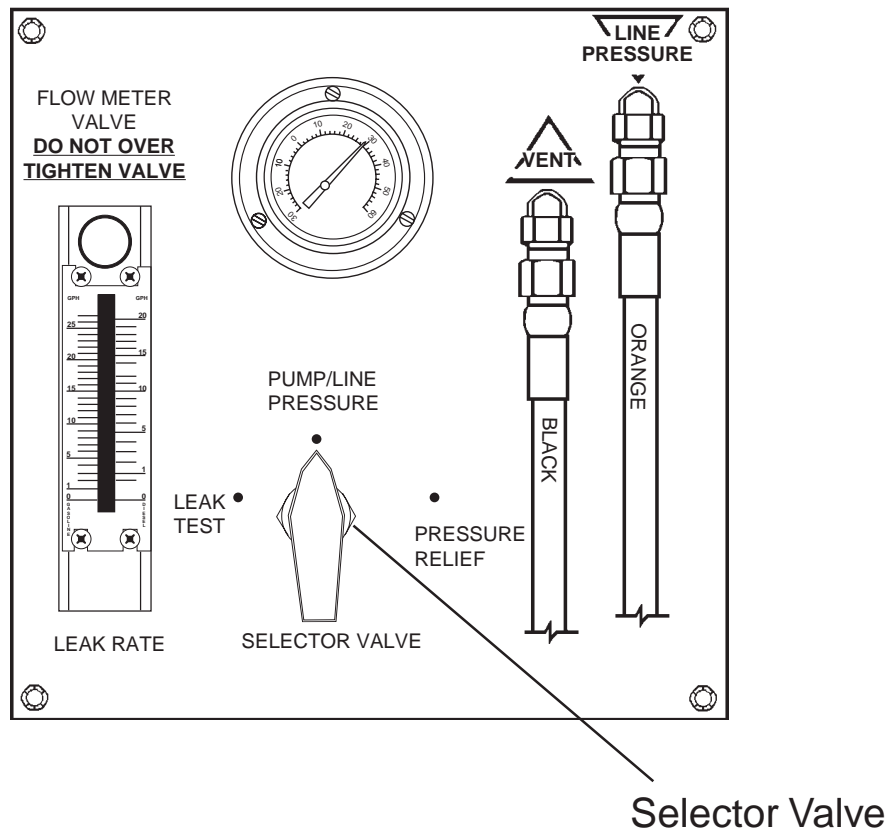

Figure 2.
- c. Turn FXT's Selector Valve to 'Pump/Line Pressure' position as shown in Figure 2. When the selector valve is in this position, the FXT is monitoring actual line pressure. As actual line pressure is displayed on the compound gauge, specifications can be checked